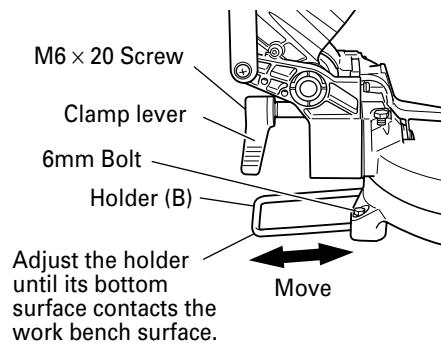

Fig. 5-a
**Holder (B), clamp lever adjustment:**
Attach the included holder (B) in the position as shown in figure 5 and adjust the holder (B) until its bottom surface contacts the work bench surface. After adjustments, securely tighten the 6mm bolt with the included 10mm box wrench. Loosen the M6 × 20 screw on the clamp lever and attach to a position where the clamp lever can be easily operated.